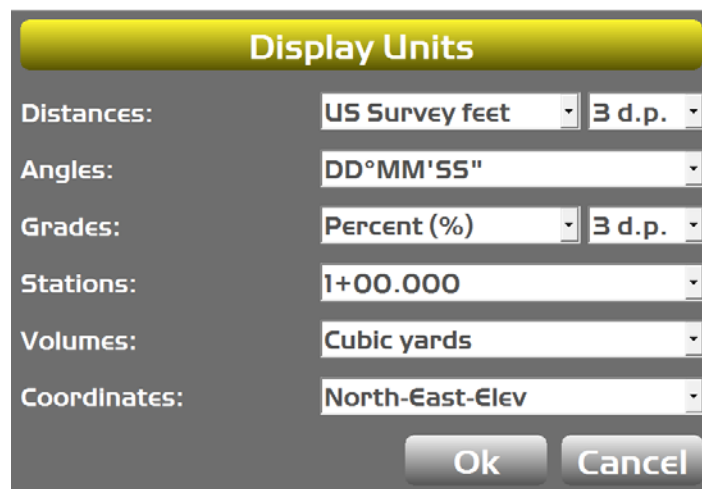

Figure 113: Display Units Screen
2. Select the display unit options from the desired drop-down lists, and tap **OK** (Figure 113).